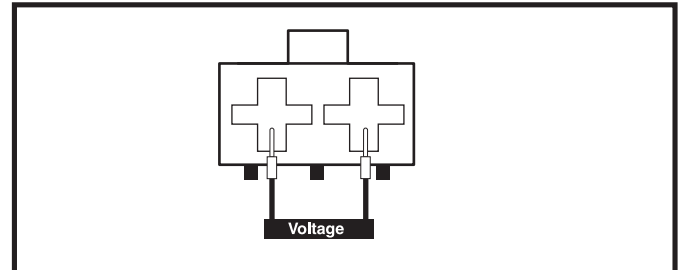
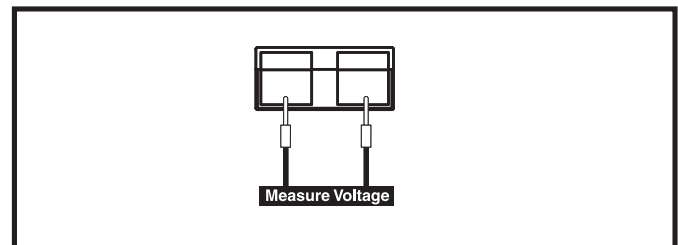
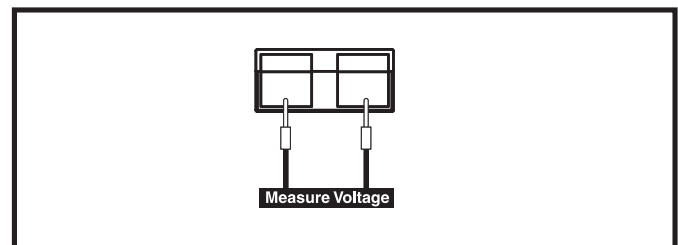

Figure 24. Connector 5a
Figure 25. Connector 11a
Figure 26. Connector 10a
6. Unplug connector 5a from the power module (4). **See diagram 2.**
7. Measure voltage across pin 1 and pin 2 on connector 5a. **See figure 24.**
- *If your multimeter indicates the same voltage as measured in step 4, then replace the power module (4) and retest the system.*
10. Measure voltage across pin 1 and pin 2 on connector 11a. **See figure 25.**
- *If your multimeter indicates a different voltage (by at least 0.2VDC), then replace the rear battery harness (11) and retest the system.*
12. Measure voltage across pin 1 and pin 2 on connector 10a. **See figure 26.**
- *If your multimeter indicates the same voltage, then replace the power interface harness (5) and retest the system.*
- *If your multimeter indicates a different voltage (by at least 0.2VDC), then replace the front battery harness (10) and retest the system.*